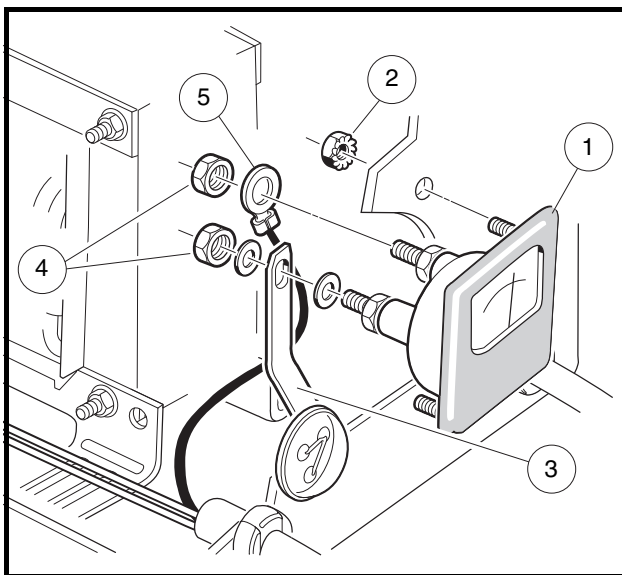

Figure 3-26 Ammeter
3. Disconnect the black wire from the DC cord (5), and the buss bar (3) from the ammeter (**Figure 3-26, Page 3-30**).
4. Remove the two nuts (2) that secure the ammeter to the charger face.
1. Place the ammeter in position in the charger face (**Figure 3-26, Page 3-30**).
2. Install nuts (2) and tighten until ammeter is firmly secured.
3. Connect the black wire of the DC cord (5) to the left (as viewed from inside the charger) post of the ammeter.
4. Connect the buss bar (3) from the fuse link to the right post of the ammeter. Place flat washers on both sides of the buss bar.
5. Thread nuts (4) onto both posts of ammeter until just past finger tight. While holding the inside nut, tighten the outside nut (4) 1/4 turn. **See following CAUTION.**
3. Remove both black secondary coil transformer wires and the buss bar from the back of the fuse link assembly (**Figure 3-26, Page 3-30**).
2. Install the buss bar (3) over the center branch of the fuse assembly and ammeter post (**Figure 3-26, Page 3-30**). Tighten to 22 in-lb (2.5 N·m).